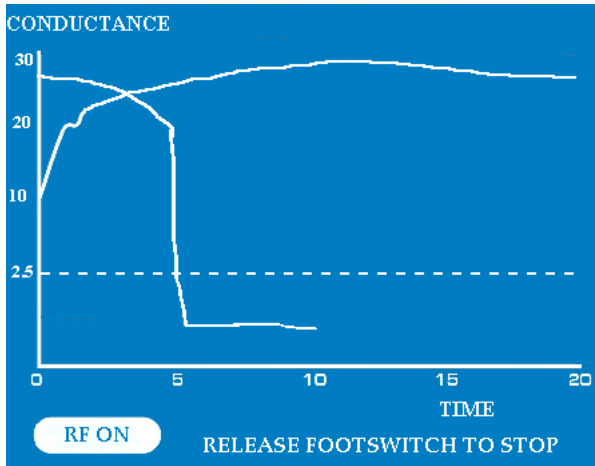

Figure 10: Wrapped Conductance Display Graph indicating RF ON Mode for Synergy Clamps
2. Press and hold the Footswitch to initiate RF energy output. RF energy output is terminated by releasing the Footswitch or at the end of 40 continuous seconds of energy delivery. The display screen of the ASU will indicate that the generator is in the RF ON Mode (refer to **Figure 10**). The RF ON indicator on the ASU Front Panel will be with blue illumination.
achieved. If the transmural condition is not achieved within the 20 seconds shown on the Tissue Conductance Display graph, the graph will wrap to a second screen and will display a continuation of the conductance for a maximum of 20 additional seconds (refer to **Figure 10**).